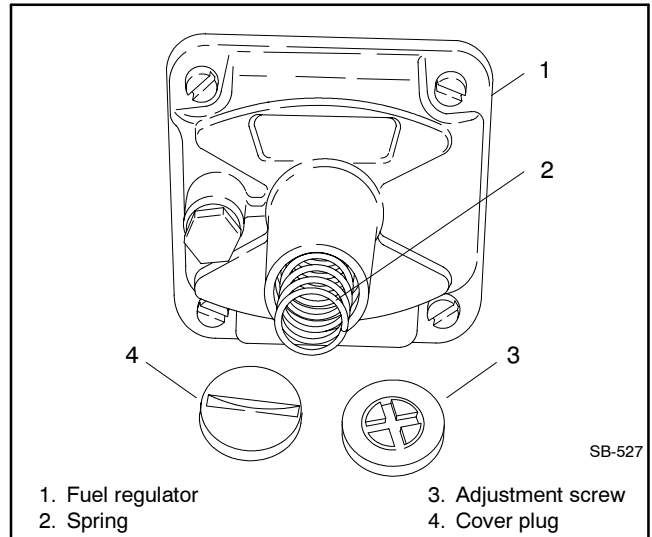

Figure 7-31 Fuel Regulator, Typical
- b. Remove the cover plug and adjustment screw from the fuel regulator. See Figure 7-31.